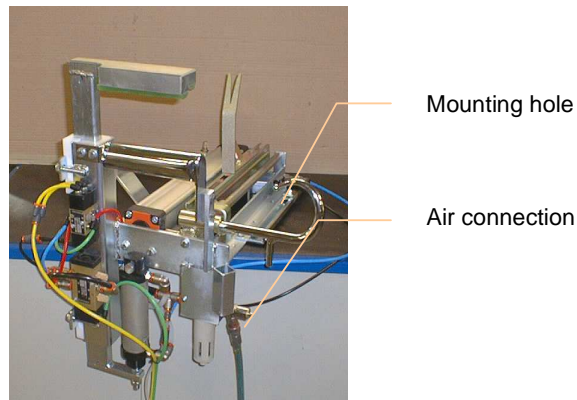

Figure 1. Mounting
- After the safe mounting of the body hook compressed air can be connected to the quick coupling through the soft starter figure 1.